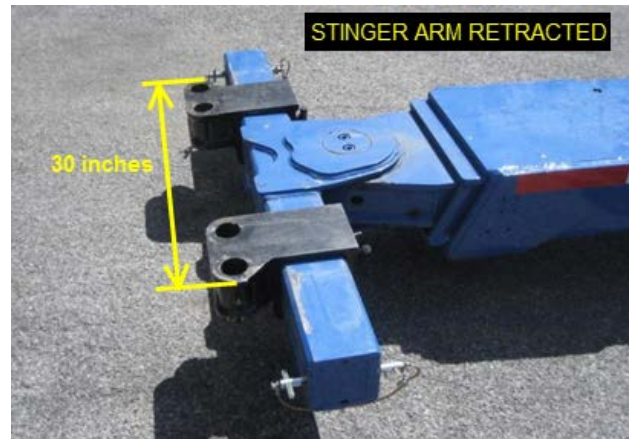

FIGURE 55
3. Retract the tow truck stinger arm (Figure 55).
4. Pre-adjust spacing between the axle fork holders. The spacing between the most distant edges of the fork holders should be **30 inches** (Figure 55).